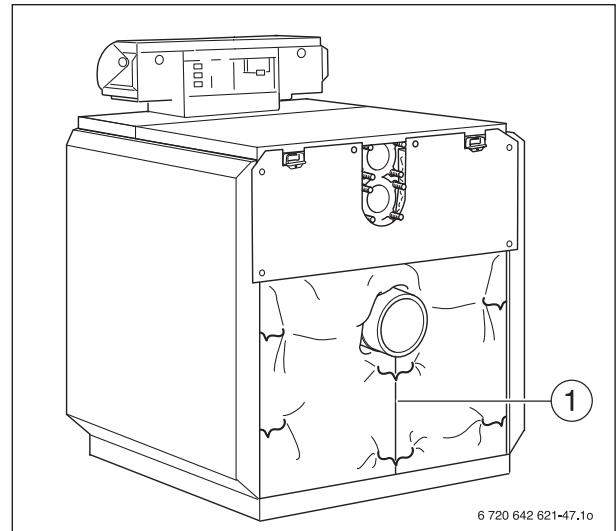

Fig. 60 Pulling the rear section thermal insulation together
- ▶ Fold the rear section thermal insulation down and pull together under the flue outlet using the spring hook (Fig. 60, [1]).